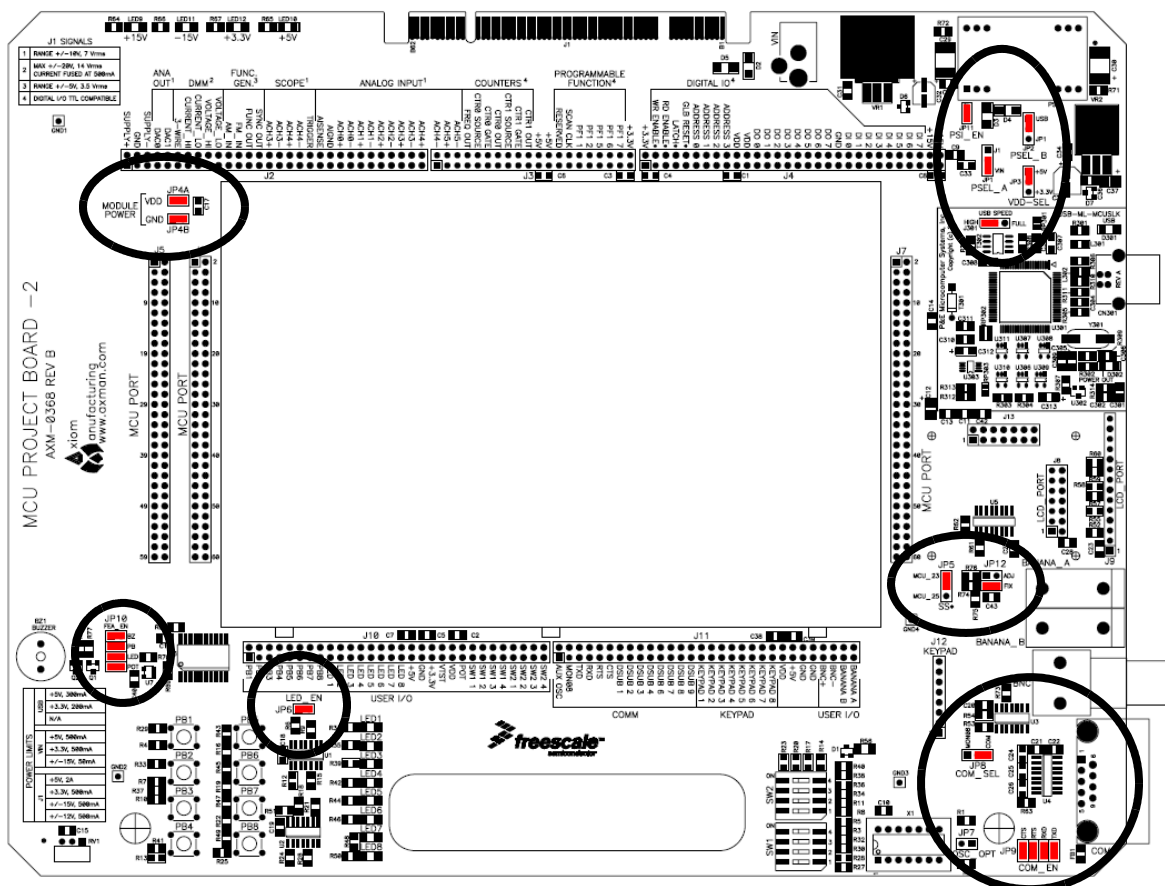

Figure 1. MCU Project Board – 2 Default Jumper Settings
2. Verify that all the factory default jumper settings are configured properly on the MCU Project Board – 2 as shown by Figure 1. Highlighted blocks indicate the “on” or “installed” position of jumpers. Circles indicate the location on the project board where the jumpers are located. Table 1 summarizes the default state for the jumper settings. Please refer to MCU Project Board – 2 User Guide for more details and alternative configurations.